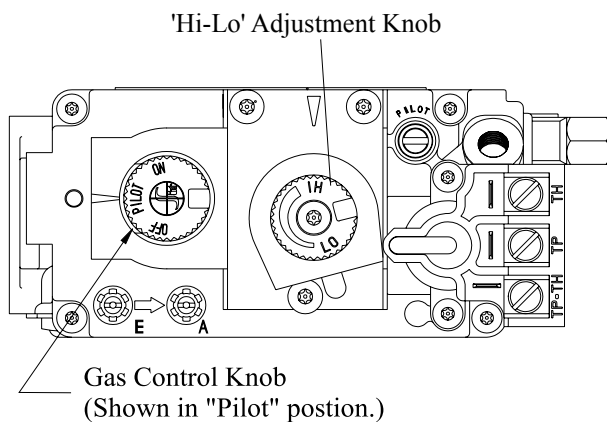

Figure 32. 'Hi-Lo' Adjustment on the L52DF's gas valve.
The L52DF is equipped with an adjustable burner, allowing you to raise or lower the flames. To adjust the flames, locate the black knob marked 'Hi-Lo', in the centre of the gas control valve (See **Figure 32**). The front burners are not adjustable.
- An inspection of the gas valve, gas components, and pilot flame. For your convenience a 1/8" manifold pressure tap is supplied on the gas valve for a test gauge connection. See **Figure 32**.